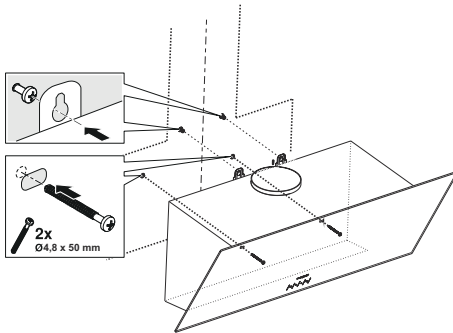

Fig. 13
1. ➤ Hold the appliance by its body and place it on the suspension screws on the wall and tighten the screws (Fig. 13).
2. ➤ Fix the appliance with 4.8x50 screws through the mounting hole on the interior of the appliance (Fig. 13).